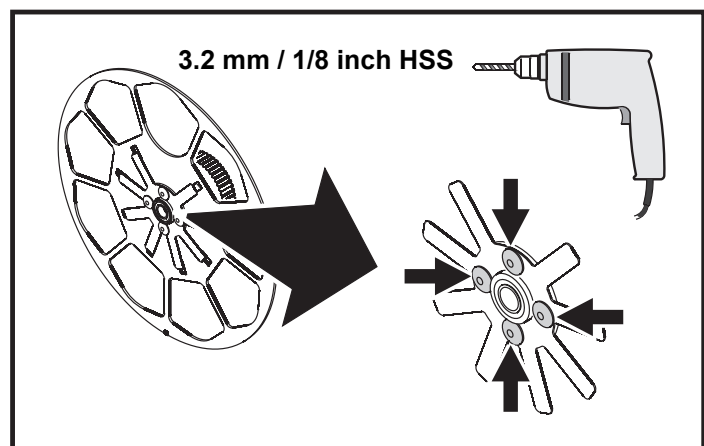

Figure 11
13. See Figure 11. Using a 3.2 mm (or 1/8 inch) HSS drill bit, drill out the rivets that hold the original color wheel onto the color wheel pulley assembly and remove the color wheel. Remove all drilling swarf and any remaining pieces of rivet from the pulley. The original color wheel assembly is no longer required.